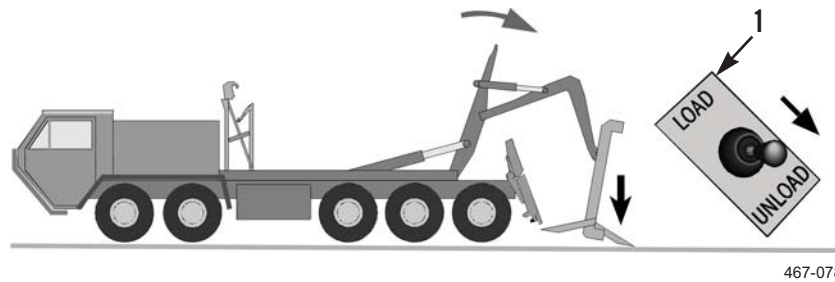

Figure 16. Joystick at UNLOAD.
5. Keep engine at idling speed and set joystick (Figure 16, Item 1) to UNLOAD (PLS: TM 9-2320-364-14&P, HEMTT: TM 9-2320-326-14&P).